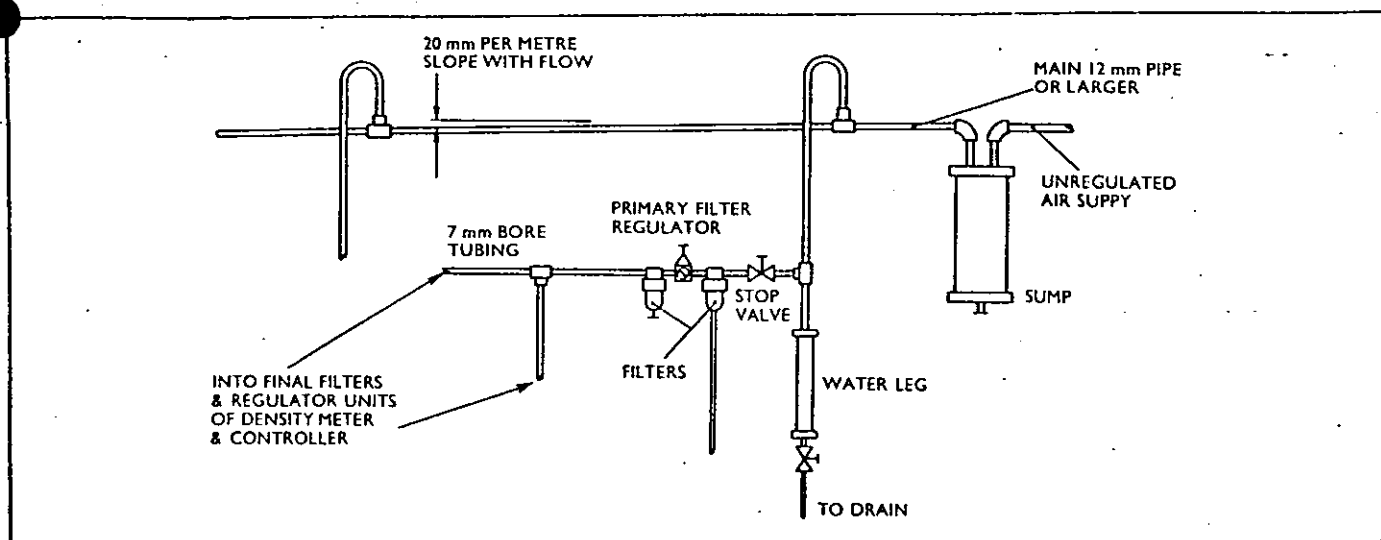

Fig. 4
- 4.1 The instrument should be supplied with compressed air from a regulator capable of delivering 15 l/min (0.5 SCFM) at 1.4 bar (20 p. s. i. g.) fig. 4.